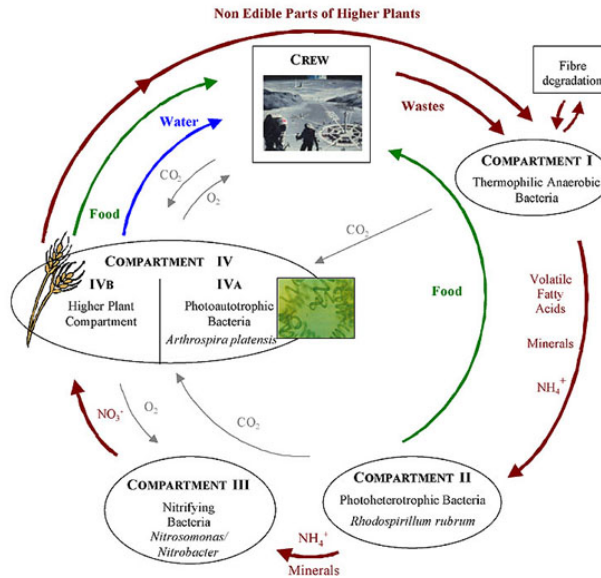

Figure 1 MELISSA LOOP CONCEPT
MELISSA Compartment I (CI) is first compartment of MELISSA loop. This compartment transform wastes to CO2 and volatile fatty acids. See Figure 1 and MELISSA documentation to further information.